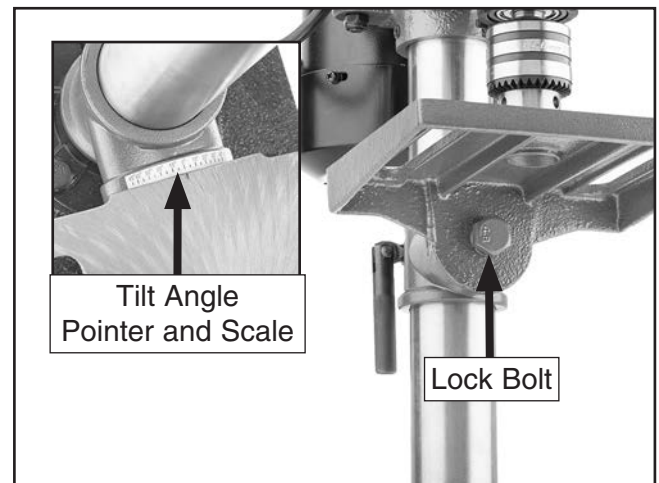

Figure 25. Table tilt controls.
1. Loosen the lock bolt shown in **Figure 25**.
2. Tilt table until pointer aligns with desired angle on scale (see **Figure 25**).